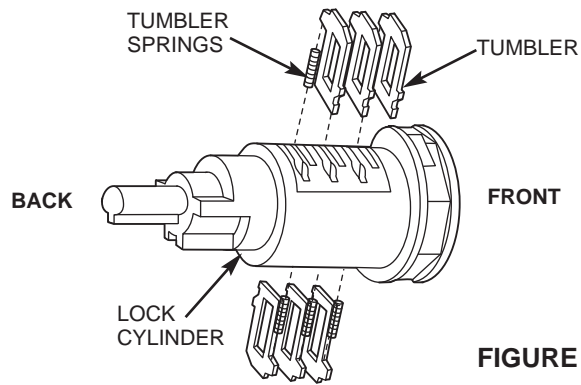

FIGURE 3
2. Insert the shutter spring (N) into round hole at the front of the lock cylinder (D) and insert the shutter assembly (O) into the rectangular hole at the front of the lock cylinder (D).
4. Insert one tumbler spring (C) into each of the holes located at the end of the tumbler wards on the lock cylinder sub-assembly (D).
5. Insert the required tumblers (B1, B2, B3, B4, or B5) into tumbler wards in the proper orientation (refer to Figure 3) and in the sequence that match the key cut depths, for key stations 1, 2, 3, 4, 5, and 6.
6. With the key in the lock cylinder, apply the included grease (E) to the tumbler wards.
7. With the key in the lock cylinder, insert the lock cylinder into the lock case (F).
10. Install shutter cover (G) over the lock case (F). Make sure the shutter cover (G) is oriented such that the slots on the shutter cover (G) match the lugs on the outer surface of the lock case (F).